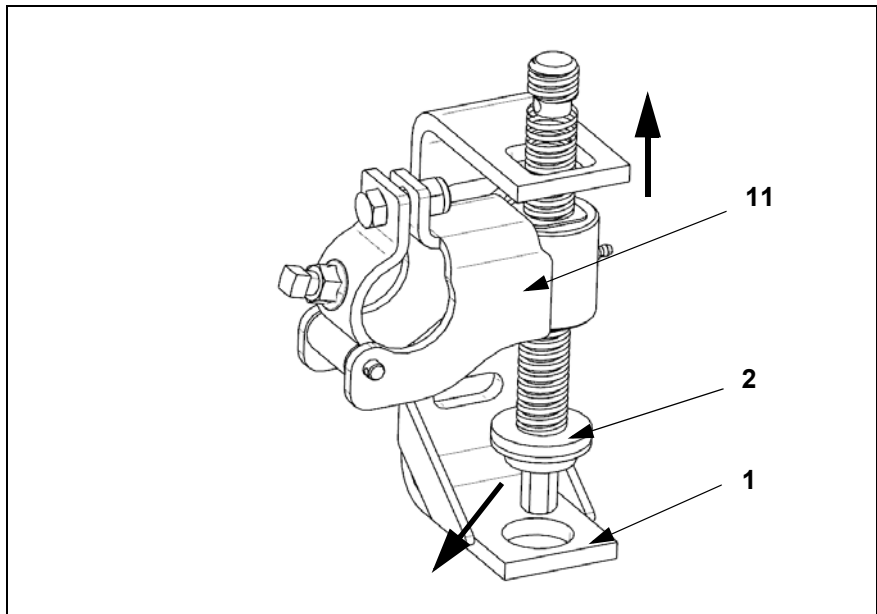

Fig. 3:
3. Remove the holding arm together with the threaded rod (11, Fig.3) and lower bearing bush (2, Fig.3) from the installation panel (1, Fig.3).